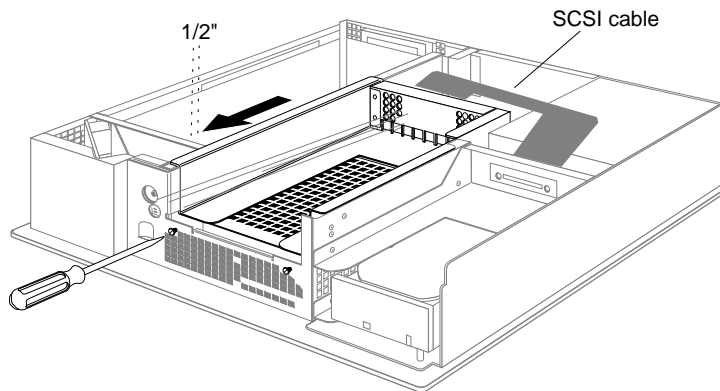

Figure 3-16 Replacing the 5-1/4" Drive Tray in the Indigo² Chassis
- Position the drive and tray so the tabs on the sides of the tray fit inside the slot openings in the chassis, and the open side of the tray faces the front of the system. (See Figure 3-16.)